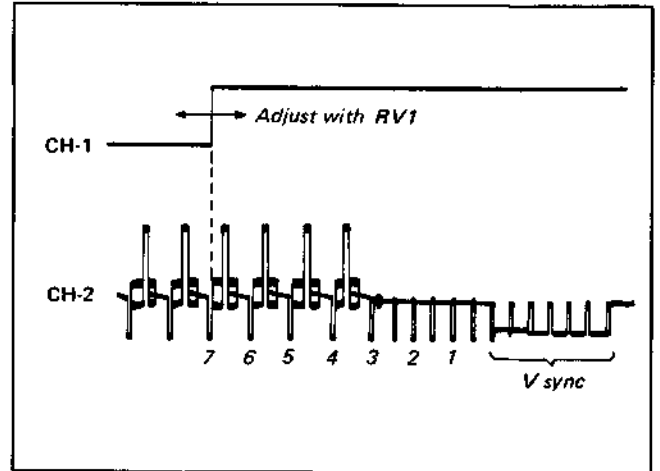

Fig. 4-3-5. RF switching position adjustment (2)
- (6) Adjust RV1 on the AS-6 board so that the phase difference between the rising section of the CH-1 waveform and the vertical sync signal of the CH-2 video signal are  $7 H \pm 2 H$ . (See Fig. 4-3-5.)